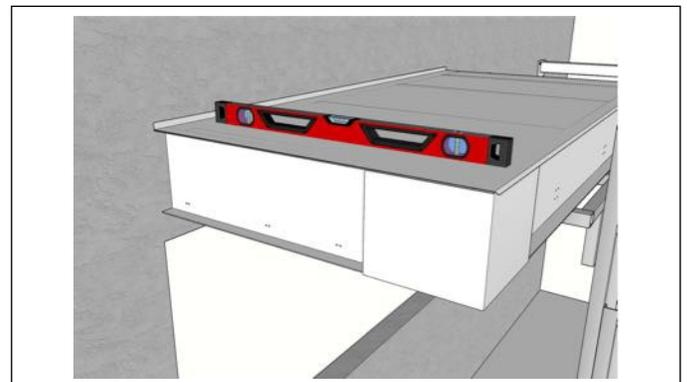

Fig 11
8. Using the lift as needed, level canopy front to back (Fig 11).